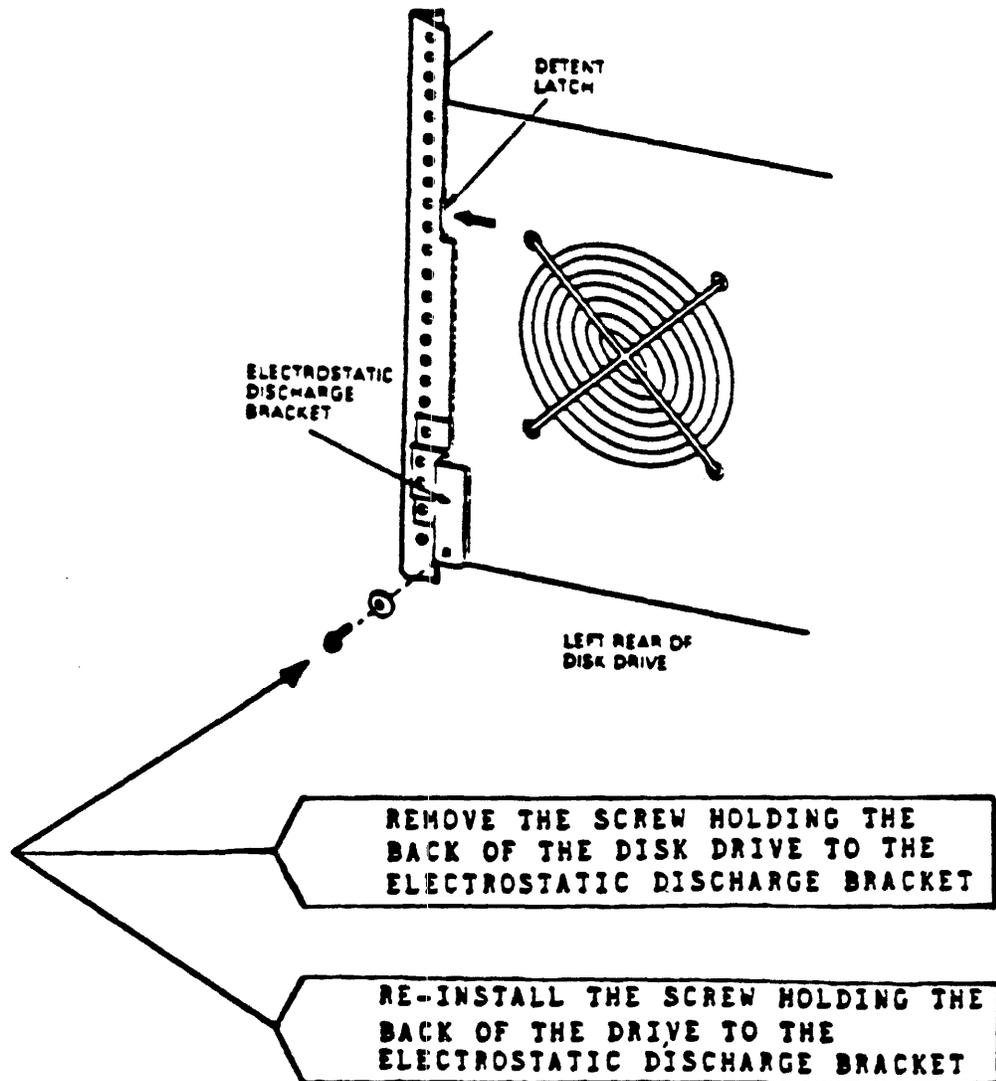

FIGURE 4
8. Remove the screw holding the back of the disk drive to the electrostatic discharge bracket. (Figure 4)
14. Reinstall the screw holding the back of the Drive to the electrostatic discharge bracket. (Figure 4)